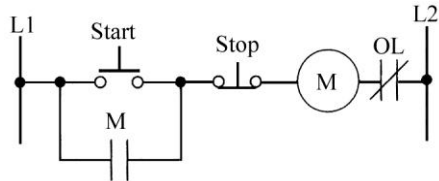

Figure 6-38 Hardwired control circuit for assignment 13.
13) Design two different PLC programs of the hardwired motor start/stop control circuit shown in Figure 6-38. One design is to be a seal-in type, start/stop control, and the other is to be a latch/unlatch type start/stop control. Incorporate both designs into a single program. Enter the program into the PLC, and prove its operation. With both outputs initially ON, simulate a power failure to the PLC system. When power was restored, what happened to the outputs? When would you use one circuit over the other?